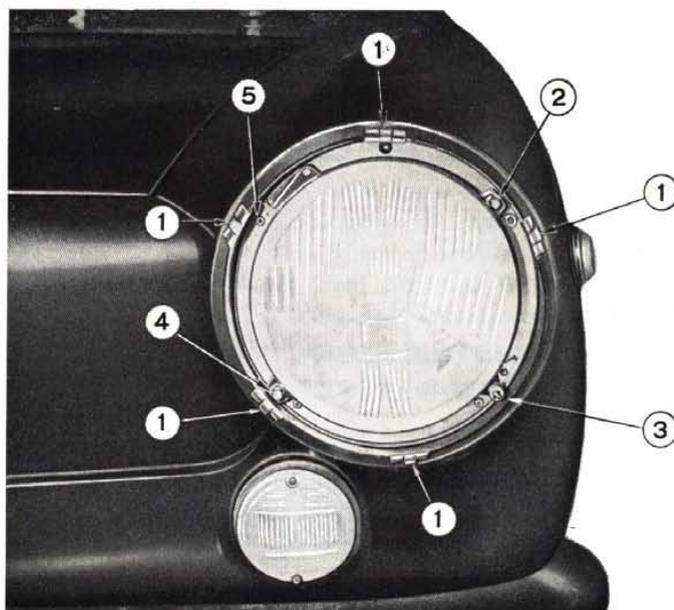

Fig. 462 - Left side headlight, without rim.
To aim headlights, switch on the low beam and work on the screw (4, fig. 462) for vertical adjustments, and on the screw (2) for horizontal adjustments, until the following conditions are obtained: